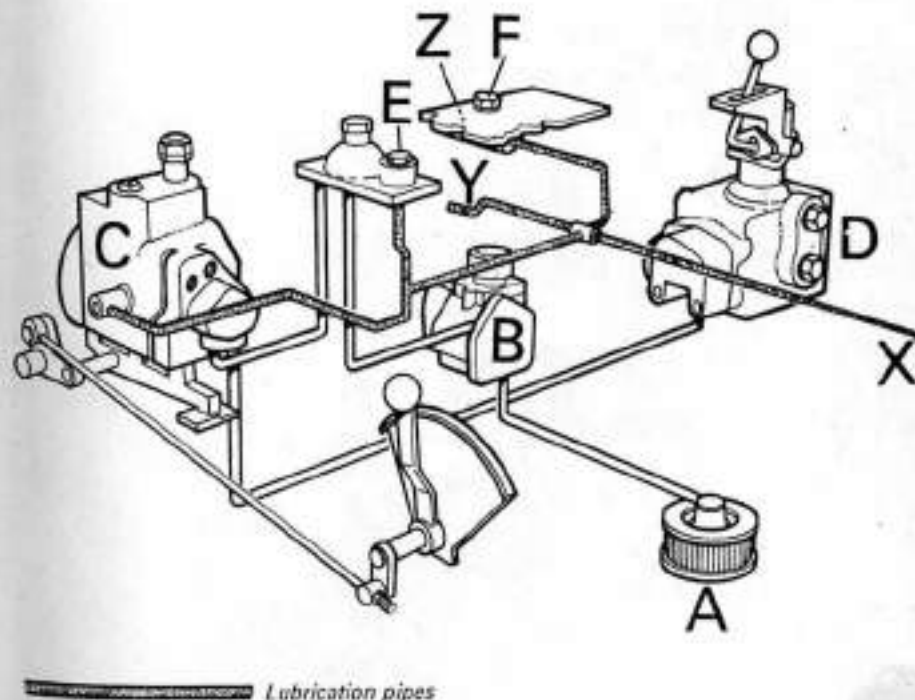

FIGURE 2/6. DIAGRAM OF HYDRAULIC SYSTEM
*Return points* — Use point A, Fig. 2/7 or point A, Fig. 2/8 which-ever is the more convenient. Both are tapped 7/8 UNF.